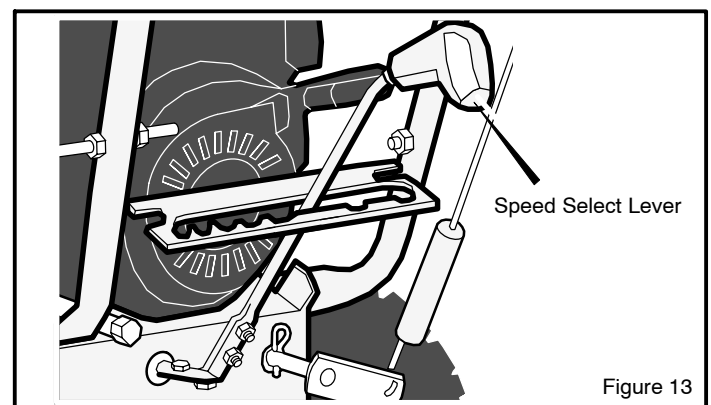

Figure 13
2. Ground speed is determined by snow conditions. Set the **speed select lever** (see Figure 13) in one of the following positions.